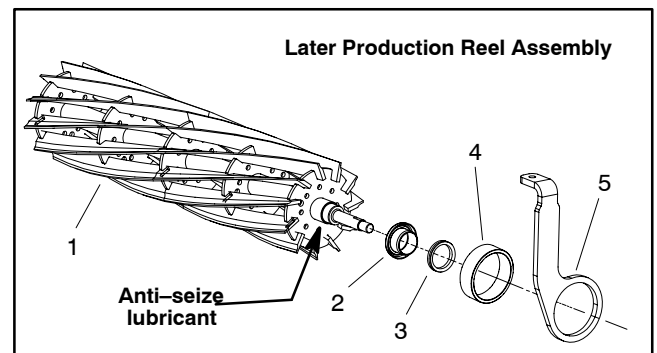

Figure 42
11. Later production reels use a wear sleeve and v-ring seal (Fig. 42). Remove these items from the reel if equipped.
4. If equipped, install wear sleeve and v-ring seal to reel (Fig. 42 and 43).